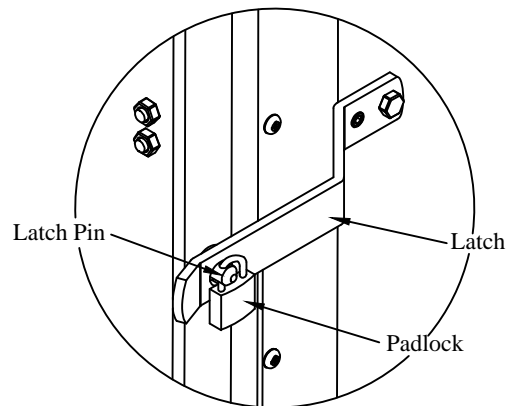

Figure 22: Padlock location.
9. **Lock** the padlock through the hole in the platform or latch pin (Figure 22).